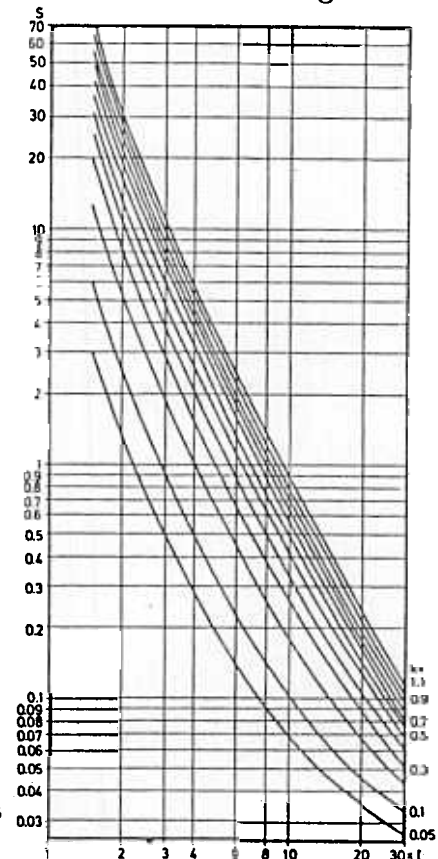

Fig. 15 Extremely inverse, t_3
- in a surface-mounted frame with front-connected screw-terminals, see Fig. 15